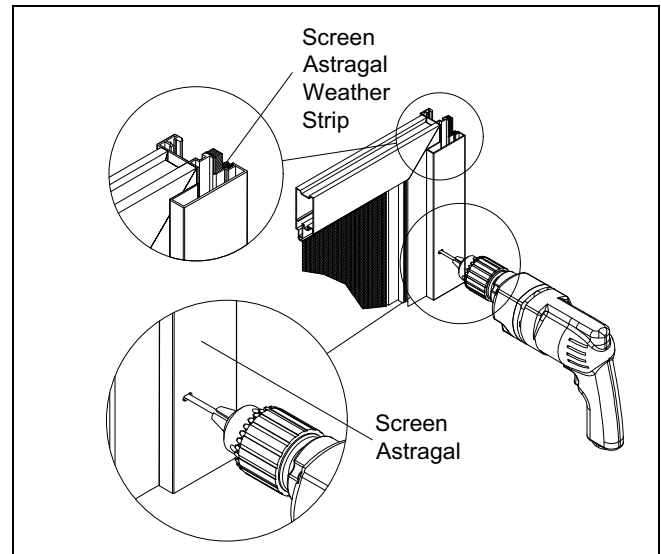

Figure 4
1. Place the astragal assembly on the meeting stile of the secondary screen panel. Mount the astragal flush with the top of the panel as shown in figure 4. The astragal weather strip will be situated on the outside toward the primary screen panel.